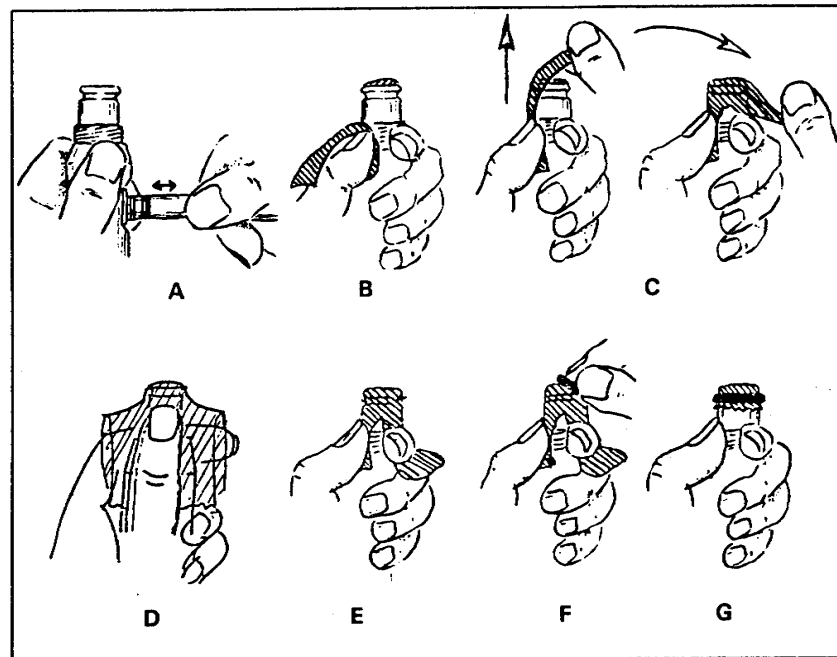

Figure 7 - Putting the membrane on the probe
4. Fill the probe with electrolyte as follows (see Figure 7):